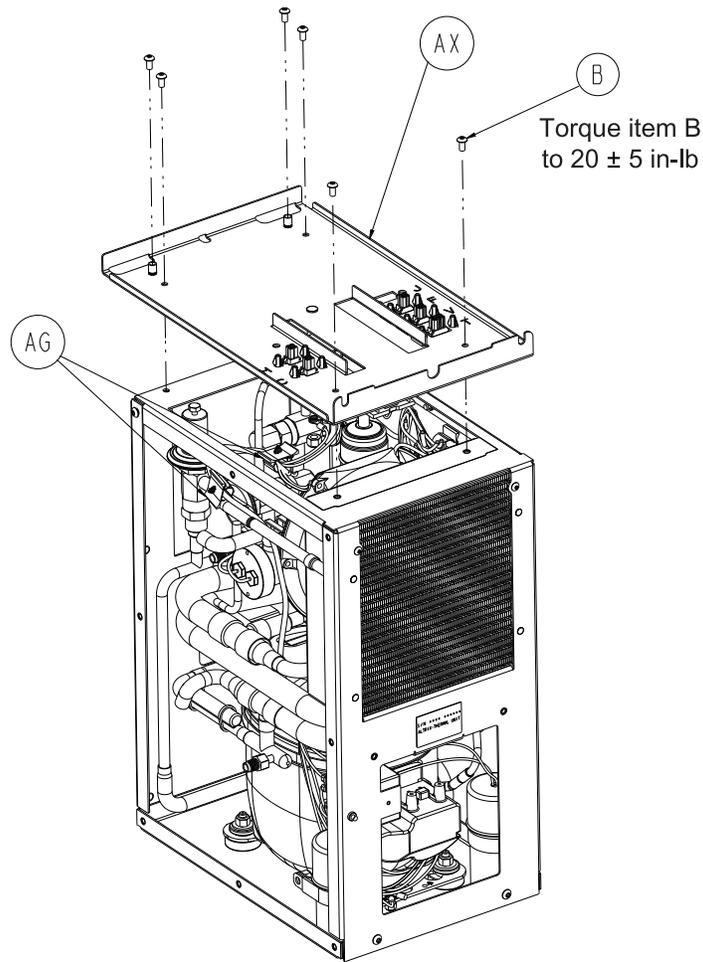

Figure 22 – Top bracket
15. Using a T25 Torx driver, remove the four screws (B) that secure the top bracket (AX) to the thermal unit (Figure 22). Save the screws.